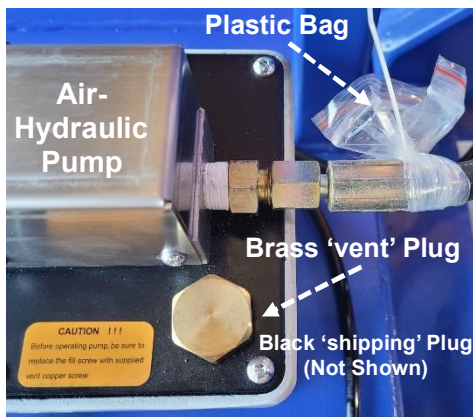

Fig. 5
- 1) On the air-hydraulic pump, locate & remove the black 'shipping' plug on the reservoir tank with wrench and replace with brass 'vented' plug, located in the plastic bag. Fig 5.